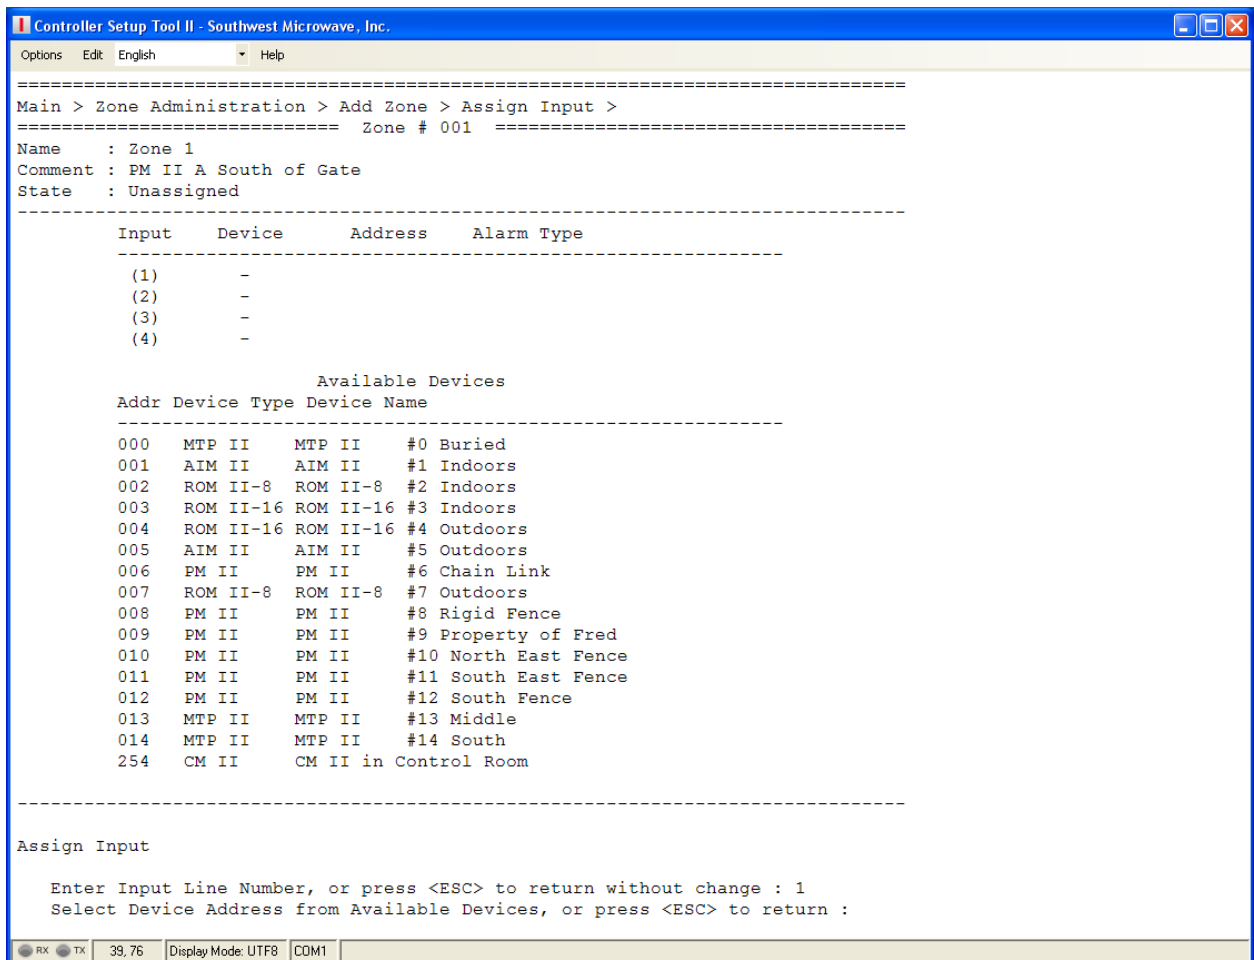

Figure 37 – Available Input Devices Screen
Once the input line number has been selected, a prompt will be displayed to “Select a Device Address” from the Available Devices list as shown in Figure 37. Only Discovered Devices that have assignable inputs will appear in the list. Input the three (3) number node address and press enter.